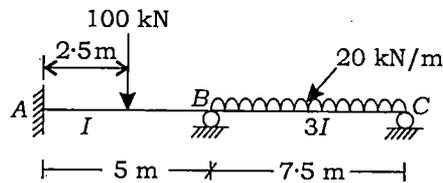

Fig. 4
2. (a) Determine the support moments for the continuous beam using slope-deflection method. The relative values of moment of inertia is given in the Fig. 4. E is constant :